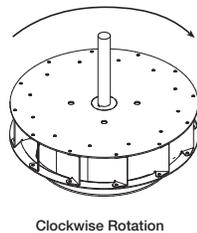

Figure 8
5. Check wheel rotation (viewing from the shaft side) by momentarily energizing the unit. Rotation should be clockwise as shown in Figure 8 and correspond to rotation decal on the unit.